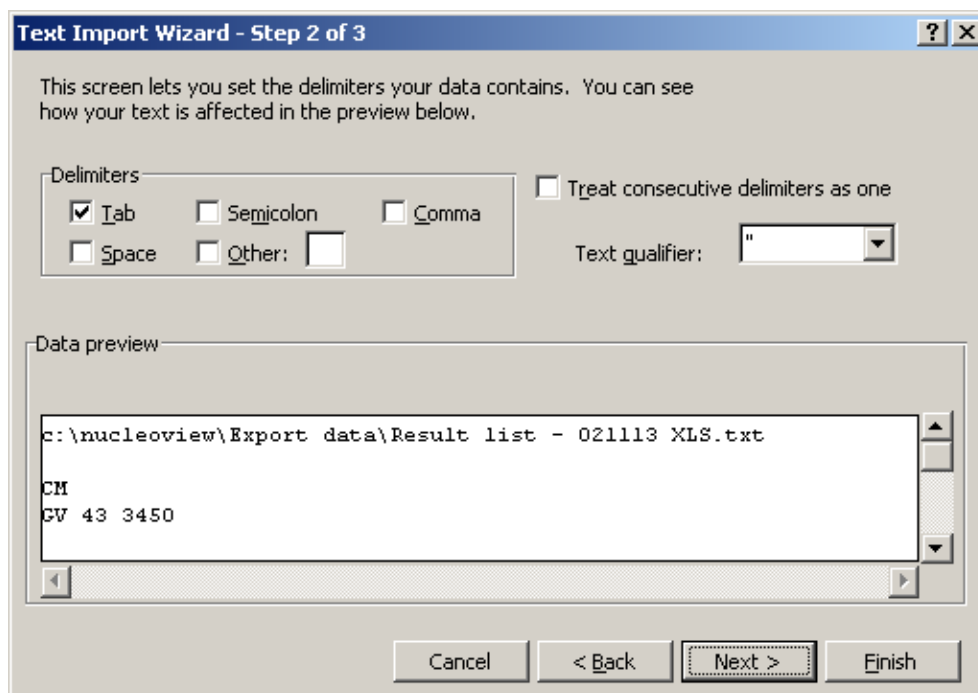

Figure 33 Import to Excel step 2.
If the radio button is set to "Fixed width" change it to "Delimited" (using the mouse). Click "Next" and a new dialogue will appear, see figure 33.
4. The delimiter must be set to "Tab" as shown in figure 33. This is normally the default setting for Excel. Click "Finish" to import the data into Excel.